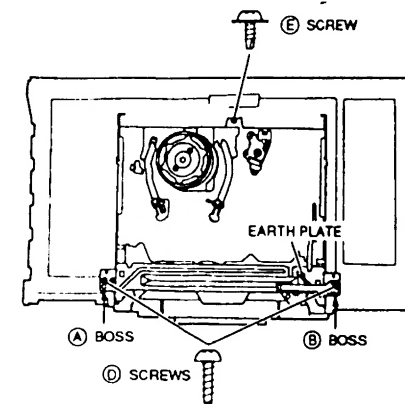

Fig 3.
- 2: Remove the two (D) screws and the (E) screw which retain the MECHANISM BLOCK and the EARTH PLATE as shown in Fig 3.
- 1: Carefully align the (A) and (B) bosses on the chassis with their corresponding holes on the MECHANISM BLOCK and then tighten the three screws as shown in Fig 3.